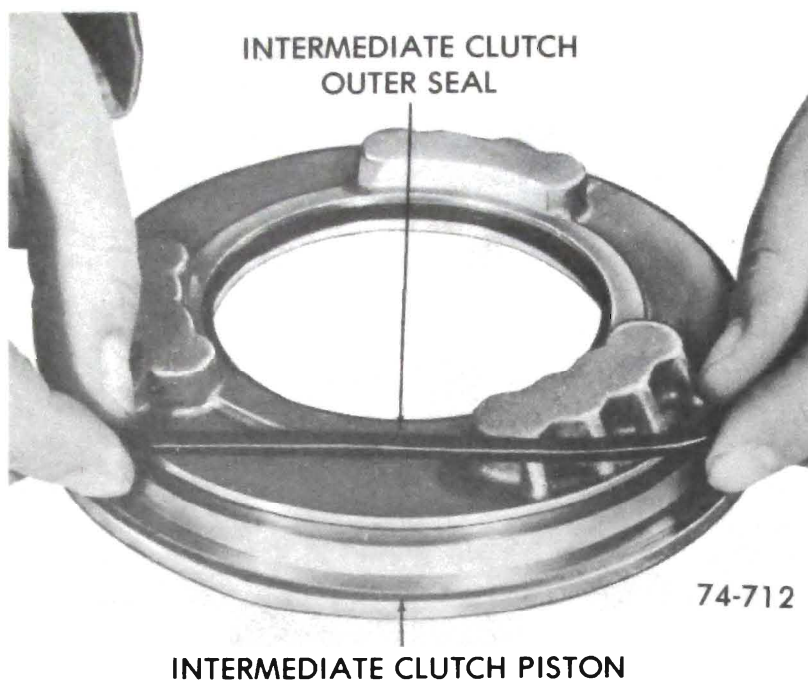

Figure 76-224
6. Remove the outer piston seal. See Figure 76-224.
2. Install new outer seal with the lip away from the spring pockets. See Figure 76-224.